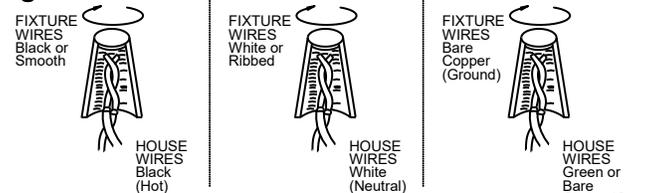

Fig.3
8. Place the back plate (D) over the two mounting screws (C) and secure using the cap nuts (F).
9. Thread the crystal finial (J) into the fixture body (I).
10. Pull up latch (E) and open the door. Attach crystal pentalogs (M) into the holes of hanging loops (N).
11. To prevent moisture from entering the outlet box and causing a shortage, use clear caulking (i.e. Indoor/Outdoor silicone sealant) to outline the outside of fixture back plate where it meets the wall leaving a space at the bottom to allow moisture a means to escape (Fig.3).
12. Install (3) three candelabra base bulbs up to 60 watts each or CFL or LED equivalent (not included) in accordance with the fixture specification—**DO NOT EXCEED THE MAXIMUM WATTAGE RATING! (NE PAS DEPASSER LA PUISSANCE NOMINALE MAXIMALE!)**.
13. When replacing the left side glass (H), pull up latch (E) and open the door. Lift tabs and remove front glass (G) first and then left side glass (H). Next replace left side glass (H) and then front glass (G). Push down tabs to secure glass. Relatch (E) the door.